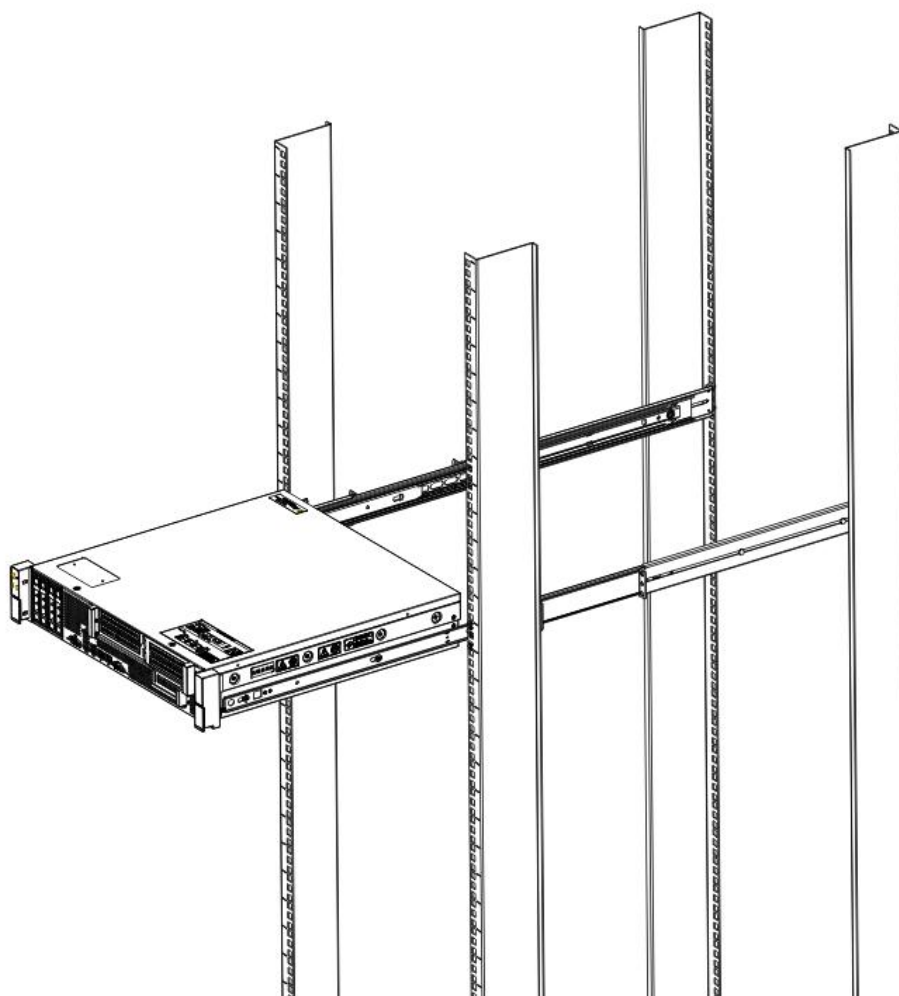

Figure 5.8
4. Raise the entire system, place it on the rails horizontally and push it into the rack. As shown in Figure 5.8 below: